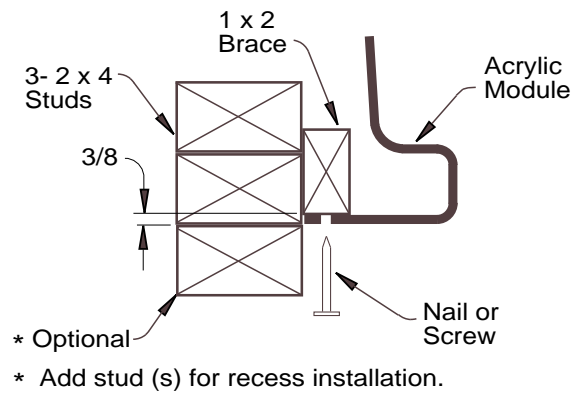

Figure 2
11. See Figure 2 for wallboard installation and finishing details.